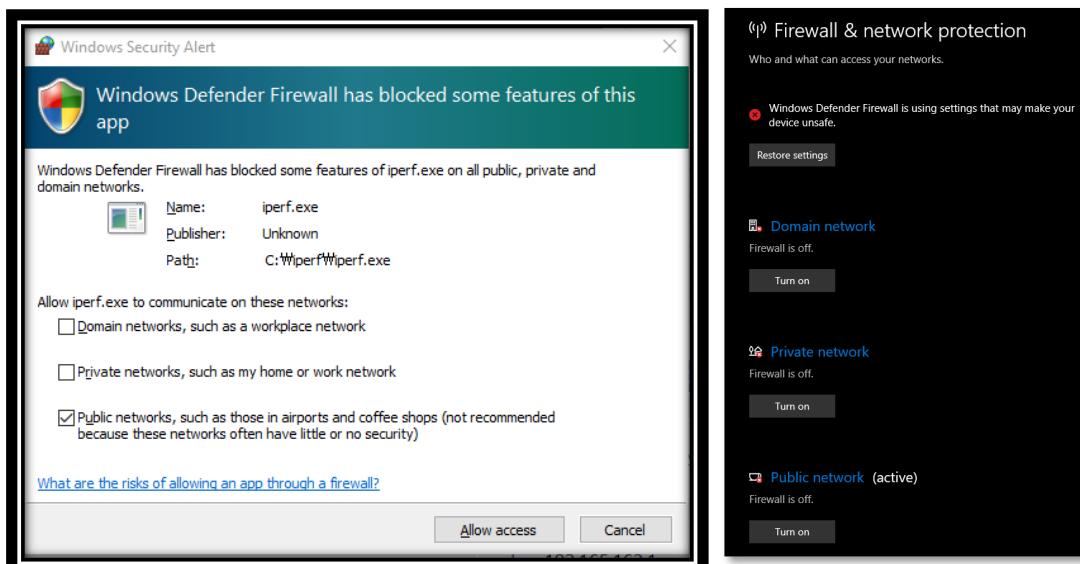

Figure 48: Disable Firewall for Iperf Test
- o Renesas recommends to disable the laptop from all network firewalls before attempting a test as shown in Figure 48